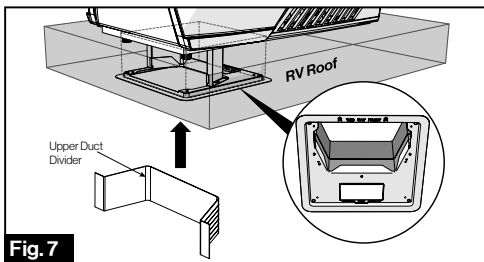

Fig. 7
5. Make sure the duct divider is compressing the top foam on the base of the unit, and compress to divider to ensure a positive retention. (Fig. 7)